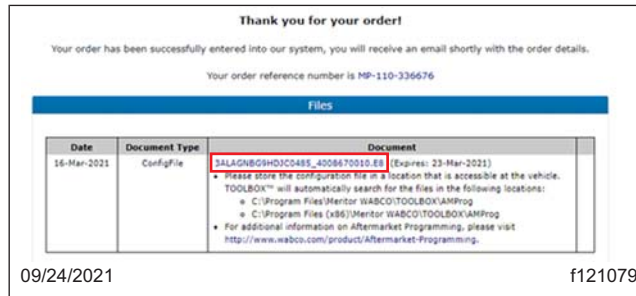

Fig. 15, Link to the Configuration File
19. Once the order is processed, a link to download the configuration file will be displayed. Select the hyper-link to download the configuration file. See Fig. 15.